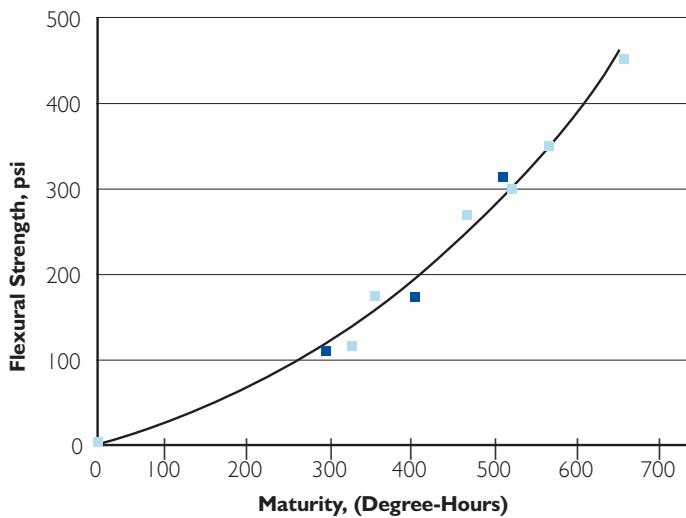

Figure 1: 4x4 Concrete: I-5 in Los Angeles
and calculated temperature-time data, in degree-hours, are presented graphically in Figure 1.
- 6) Graph the degree-hour and strength data as shown in Figure 1.